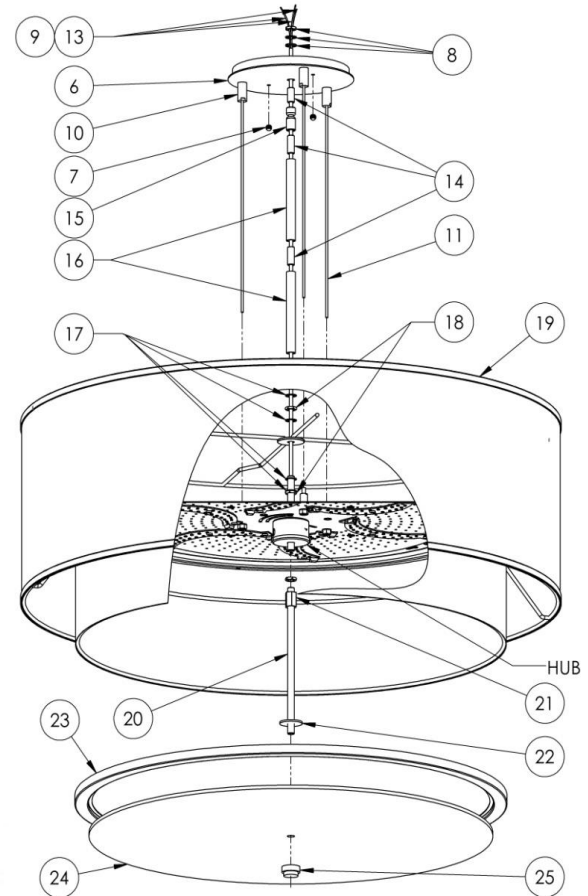

FIG 3
- F. **For (0-10V) dimming fixture.** Connect gray source wire from the fixture to the dimmer source gray wire. Connect purple wire from the fixture to the dimmer source purple wire. Connect white fixture lead to white (N) wire from supply power source. Connect black fixture lead to black (L) wire from dimmer supply power source.
Step 4 – Adjusting fixture height (Fig 3)
- A. Adjust the aircraft cables up and down by pressing the “Spring Pin” (12) downward and holding until the proper cable length is attained based on the center pipe stem length so they are taught and even.
- A. Line up the two holes in the canopy (6) with the two screws in the round mounting bracket (2). Secure fixture to screws (1) with two thumb ball nuts (7).
- B. Diffuser (19) is assembled with long pipe nipple (20), hex coupling (21), and nut (18) and is installed from under the fixture. Install the long nipple (20) to the hub as shown in Fig 3 & 4. Be sure the threaded washer (22) is threaded about 1/2" up onto the nipple (20).